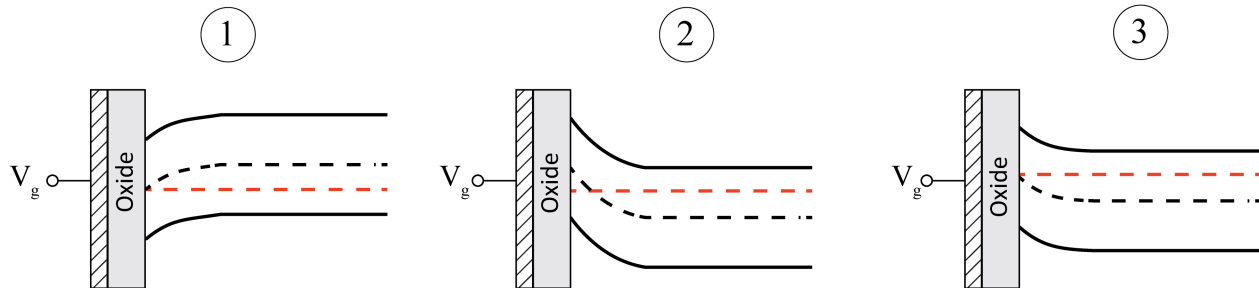

Figure 5: MOSCAP 2
11. (4 marks) A simplified band diagrams for MOSCAP are shown in the figure 5 below. Match the energy band diagrams labelled from 1 \rightarrow 3, with the corresponding substrate type, applied gate voltage V_g , and the bias condition.